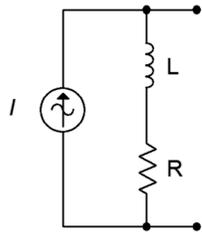

Figure 5.40
69. Design an equivalent voltage source for Figure 5.40 if  $I = 10E-3\angle 0^\circ$ ,  $R = 9.1\text{ k}\Omega$  and  $L = 5\text{ mH}$ . The source frequency is 100 kHz.
70. Design an equivalent voltage source for Figure 5.40 if  $I = 50E-3\angle 0^\circ$ ,  $R = 560\ \Omega$  and  $X_L = j350\ \Omega$ .